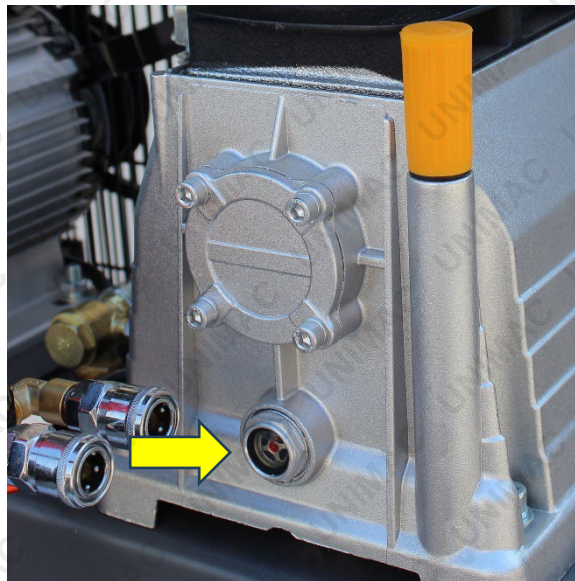

Figure 1: Oil level indicator
4. **CHECK OIL IN THE CRANKCASE.** The oil level should be in the center of the oil sight gauge on the pump. Use proper compressor oil only. See figure 1 below.